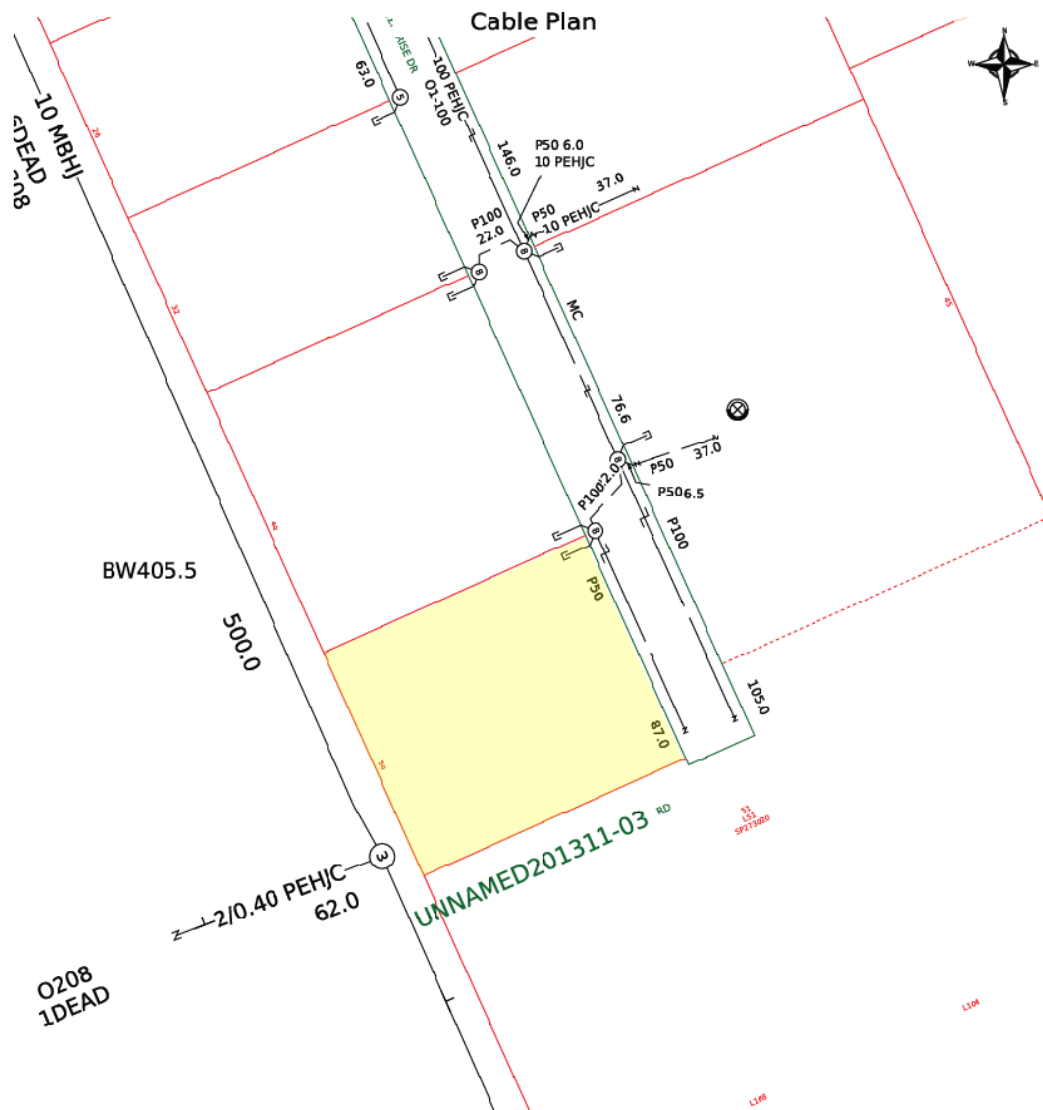

Figure 11 Existing Telstra Network
As per the records received from Telstra via Before You Dig (BYDA) *Figure 11*, there is existing Telstra infrastructure present near the proposed development site. The area is serviced by P50 (50mm PVC) and P100 (100mm PVC) conduits containing polyethylene-jacketed cables (PEHJC). The network includes main cable ducts (MC), distribution cables (Dist), and multiple access pits and joining points along the route for maintenance and connectivity. Additionally, 2 pair lead-ins connect to adjacent properties, indicating active Telstra services in the vicinity of the site.